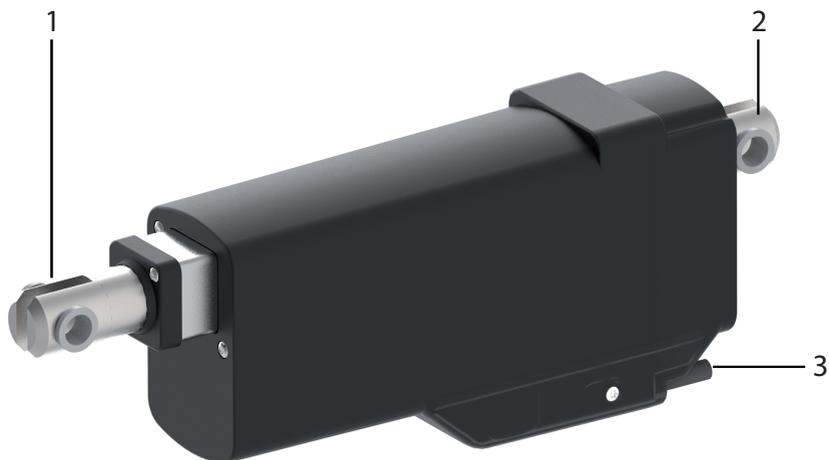

Abb. 1 Patio linear drive
1. Fasten the device only by the fastening elements provided for this purpose. These are located at the end of the housing and on the piston rod (see Fig. 1).